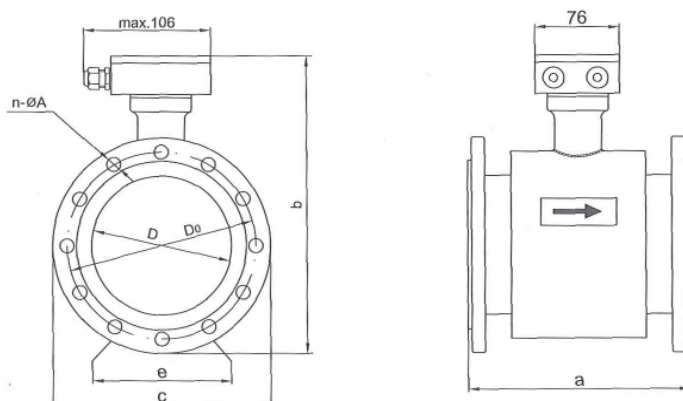

Fig.2
5.1 Dimensions of compact version (Fig.2 -Tab.1)